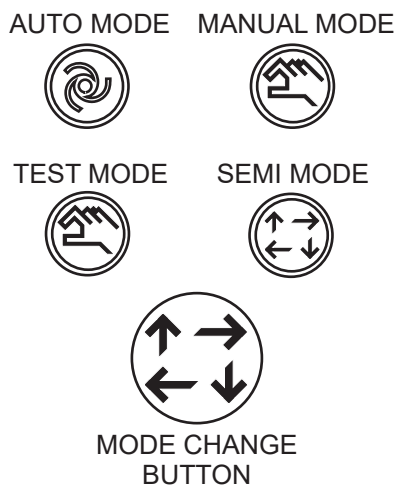

Figure 54. Operational Mode Buttons
2. Verify that the four **Operational Mode** buttons (Figure 54) are displayed just above the **Mode Change** button.